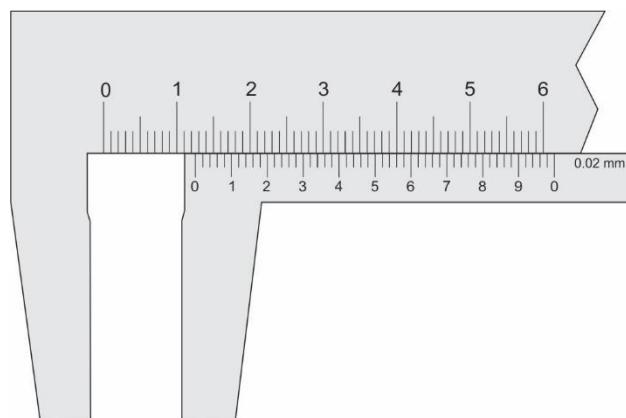

Figure 6 Another reading on a vernier caliper
5. What is the vernier caliper reading in **figure 6**?